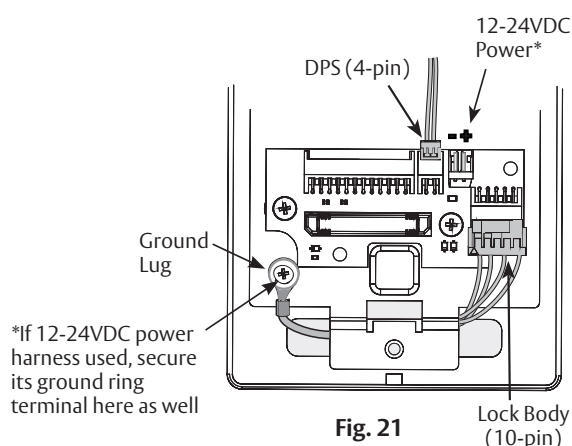

Fig. 21
i. Secure the following connectors to their respective terminals (Figure 21):